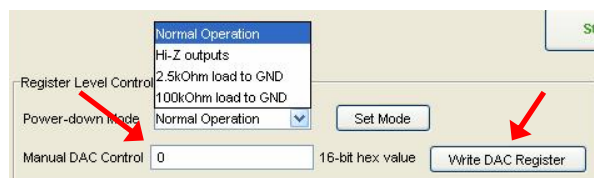

Figure 9: Manual DAC Control
8. Perform register level control of the DAC by writing 16-bit words to the DAC Data Register. To write the DAC, simply type a 16-bit hex value into the "Manual DAC Control" field and press Enter or click the "Write DAC Register" button. See Figure 9.